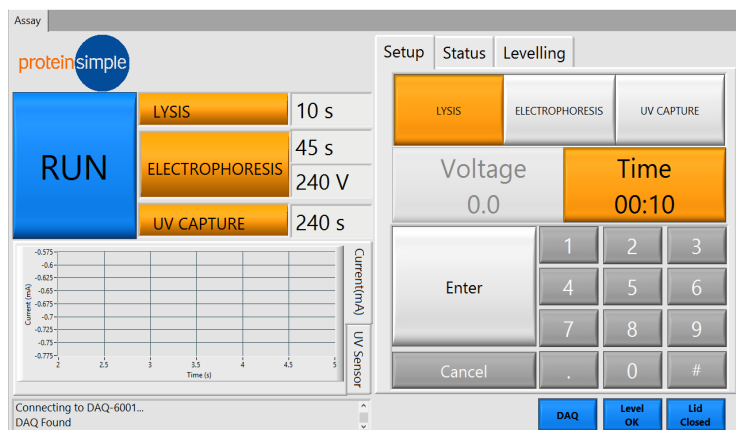

Figure 5-10: To set the lysis time, press the **Lysis** button above the number pad, enter the desired length of time in seconds, then press **Enter**.
- 5 Enter the desired lysis (Figure 5-10) and electrophoresis (Figure 5-11) parameters using Milo's touchscreen. Recommended initial values are given in Table 5-1. For more detailed recommendations on electrophoresis time, please refer to the Tech Note entitled "Selecting an Electrophoresis Time for Multiplexed Single-Cell Western Assays" found on the ProteinSimple website. Enter the times in MM:SS format on the right side of the software interface. Values on the left side of the software interface will be used in the assay run.